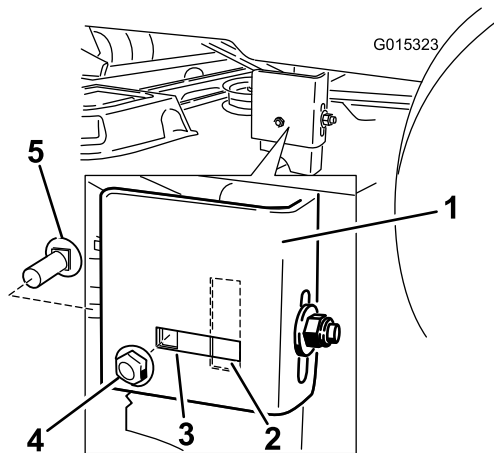

Figure 53
7. Move to the left side of the machine. Check if the side carriage bolt is in the fixed or slotted position (Figure 53).
8. If the side carriage bolt is in the fixed position, remove the side carriage bolt and side locking nut from the fixed position and install it into the slotted adjustment position (Figure 53).